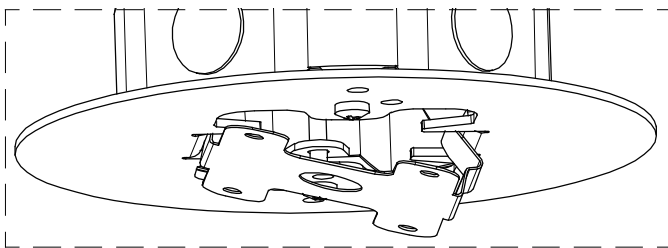

Figure 5
7. Lift the Fixture Frame up to the ceiling. Align and snap (1) Spring Clip on the Fixture into Fin Snap on the Mounting Plate. Push up the Fixture Frame to make sure the two Spring Clips are firmly buckled with the Fin Snaps. See Figure 5 and 6.